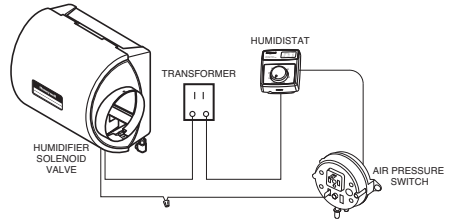

Fig. 14. Wiring the controls.
7. Connect the low-voltage wires to the leads and replace the H8908 case. See Fig. 14.
1. Run the two-strand thermostat wire from the humidifier to the humidistat, and from the humidistat to the pressure switch and back to complete the wiring loop to the humidifier. This is illustrated in Fig. 14.